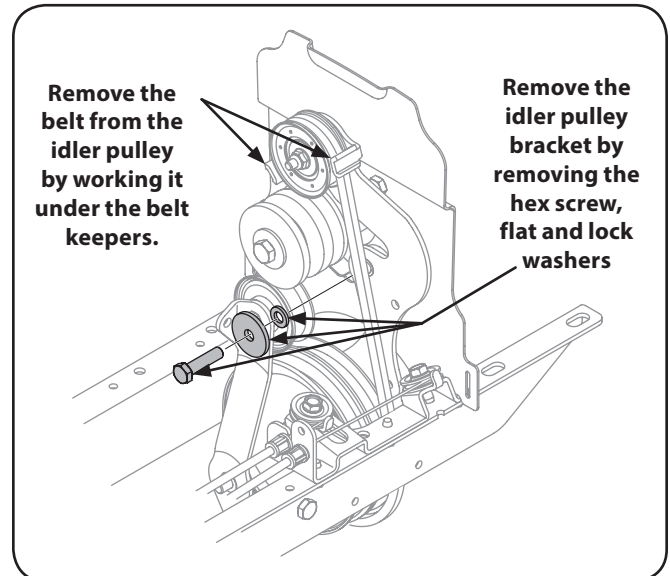

Figure 7-4
5. Remove the idler pulley bracket by removing the 5/16-24 hex screw, flat washer and lock washer, as in Figure 7-4.